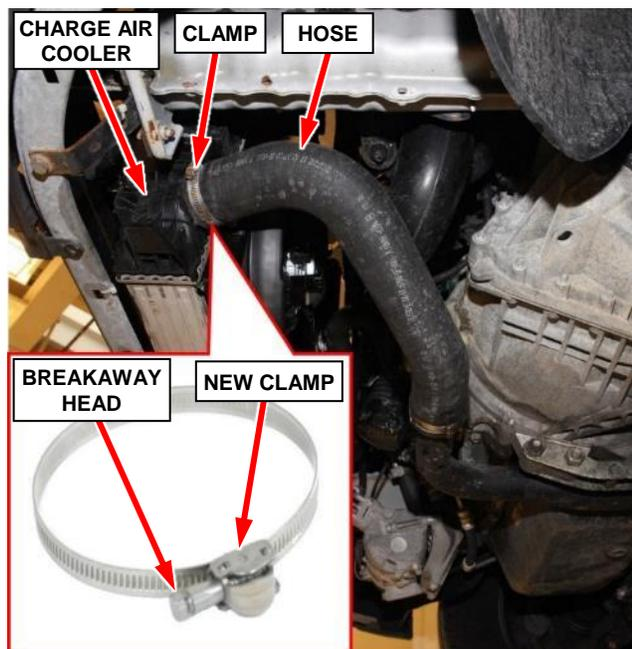

Figure 20 – Charge Air Cooler Hose
16. Release the hose clamp from the lower charge air cooler hose. A **NEW** hose clamp is supplied with this campaign (Figure 20).
17. Disconnect the lower charge air cooler hose from the charge air cooler (Figure 20).
18. Remove and **DISCARD** the old clamp from the charge air cooler hose (Figure 20).
25. Install a **NEW** hose clamp on the lower charge air cooler hose (Figure 20).
26. Connect the lower charge air cooler hose to the charge air cooler (Figure 20).
27. Tighten the **NEW** hose clamp until the outer breakaway head snaps off, this will set the clamp to the proper torque specification, no further tightening is needed. Clamp head breakaway torque is approximately 3 N·m (27 in. lbs.) (Figure 20).